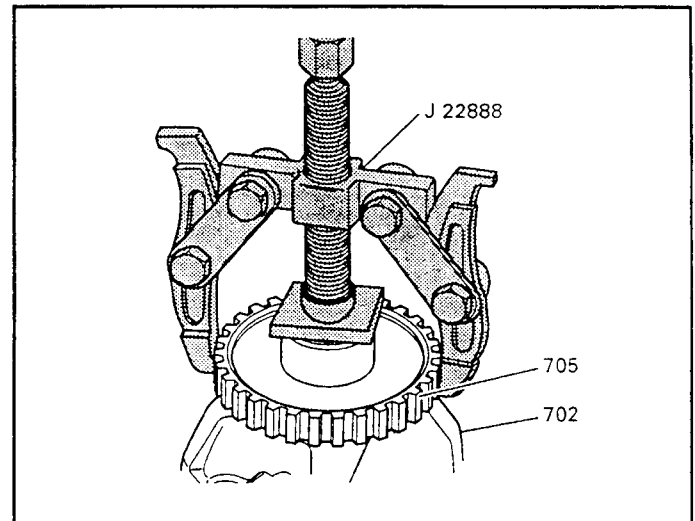

Figure 103
24. If necessary, use a universal puller and a thick flat washer to remove the speed sensor rotor as shown in Figure 103.